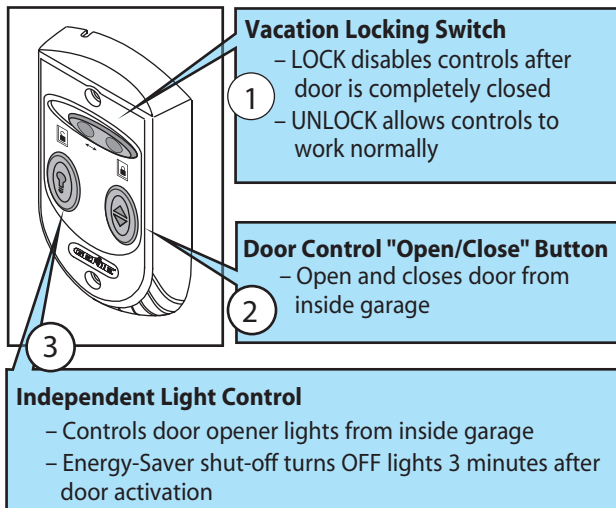

FIG. 3-5 Mounting Entrapment warning label.
- Remove protective backing from "Entrapment" warning label (**Fig. 3-5**). The "Entrapment" label is located in the center of this manual.